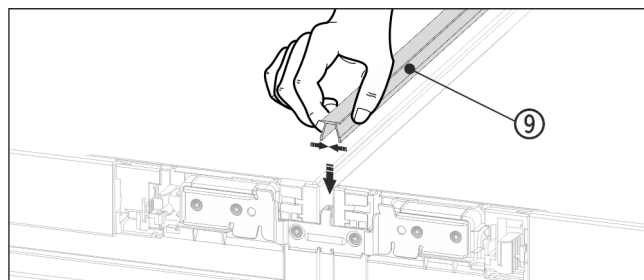

Fig. 18
- On the top press the short cover strip Fig. 18 (9) into the horizontal gap.